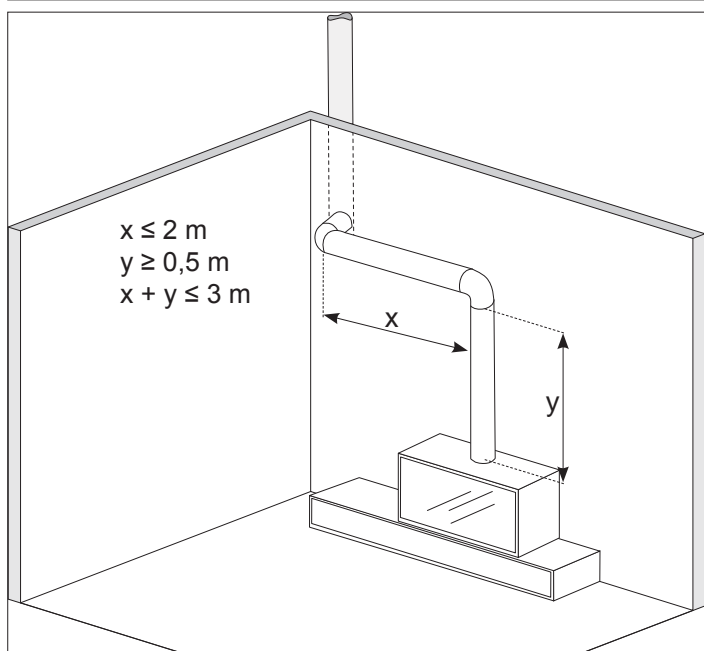

fig. 5.3
- In order to connect the stove to the chimney you may perform maximum 3 changes of direction that should not exceed 90°, the fume duct should not exceed 2 metres in length and 3 metres in total (fig.5.3).